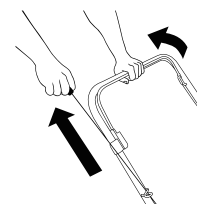

Fig.6B
2. To start the engine, hold the brake control bar down to the upper handle. (Fig. 6B)
3. Firmly hold the brake control bar. Pull the starter handle slowly until resistance is felt, then pull rapidly. Return it slowly to the loop after engine starts.(Fig. 6B)